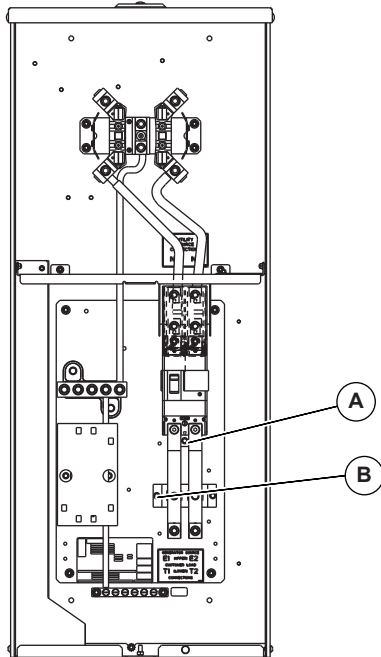

Figure 3-11. Remove Bus Bar Assembly
1. See Figure 3-11. Remove screws (A) from bus bar assembly and set aside.
2. Remove screws (B) from bus bar assembly and remove assembly from sub panel.